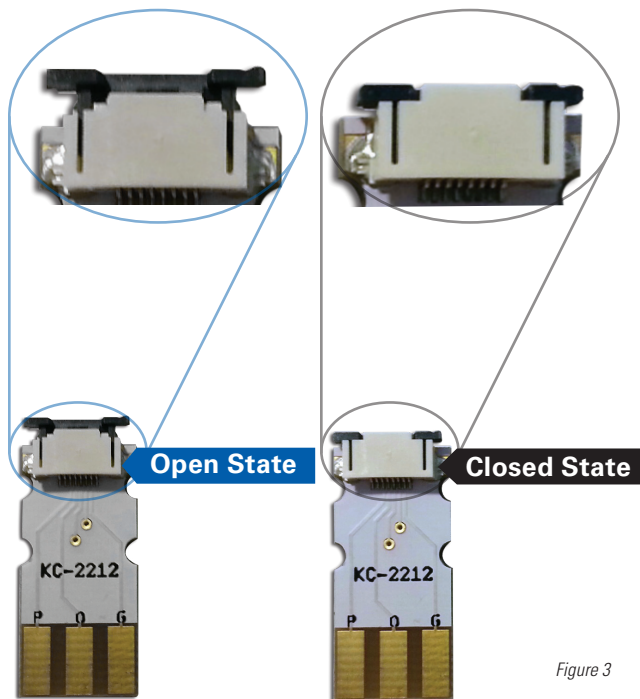

Figure 3
**Note: The FLEX PCBs must be inserted when the Adapter PCBs are in the “open” orientation (Figure 3, Page 4).**